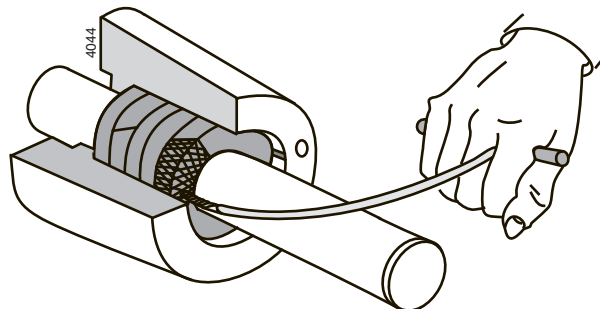

Figure 6: Removal of packing rings with a packing puller.
- For removing old packing rings your supplier can supply a special packing puller. See figure 6.